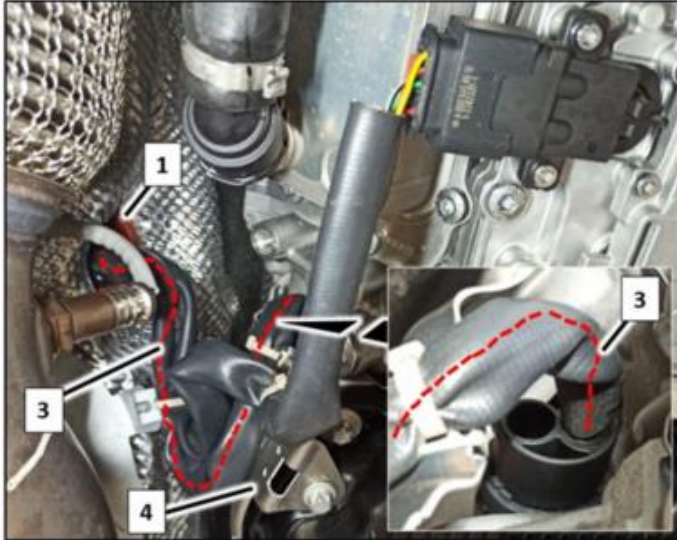

Figure 6
**i** If the electrical power supply line (3, Figures 6 and 7) (cable cross section 10 mm2) is damaged, replace electrical supply line
(3, Figures 6 and 7):
2. Remove protective metal sheet (4, Figure 6).
3. Disconnect electrical power supply line (3, figure 6) from electrical connector.
5. Remove electrical power supply line (3, Figures 6 and 7) with grommet (1, Figures 6 and 7).
6. Replace electrical power supply line (3, Figures 6 and 7).